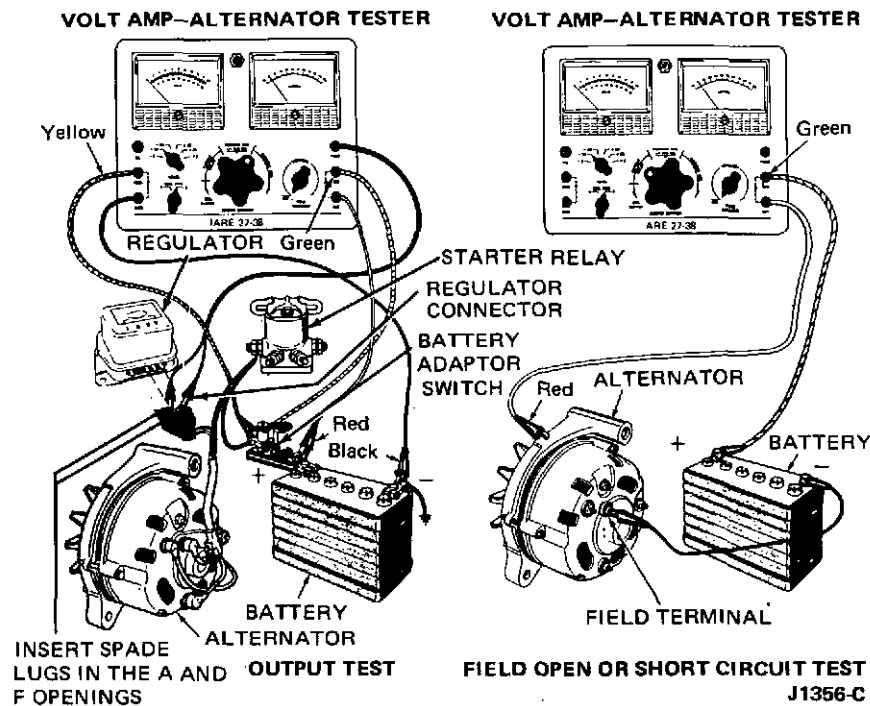

Fig. 8 - Alternator Tests
1. Check the alternator drive belt tension. Place the transmission in neutral or park and supply the parking brake. Make the connections and tester knob adjustments as shown in Fig. 8 (Output Test). Be sure that the field rheostat knob is at the OFF position at the start of this test.
Make the connection as shown in Fig. 8 (Field Open or Short Circuit Test). The current draw, as indicated by the ammeter, should be to specification (see Specification Chart - page 36). If there is little or no current flow, the field or brushes have a high resistance or are open. A current flow considerably higher than that specified above indicates shorted or grounded field turns or brush leads touching. If the tests shows that the field is shorted or open, determine if the field brush assembly or slip rings are at fault.
If the rotor checks indicate that it is in proper operating condition but the overall Field Open or Short Circuit Test (Fig. 8) indicates trouble, the brushes or brush assembly are the cause. Replace damaged parts.